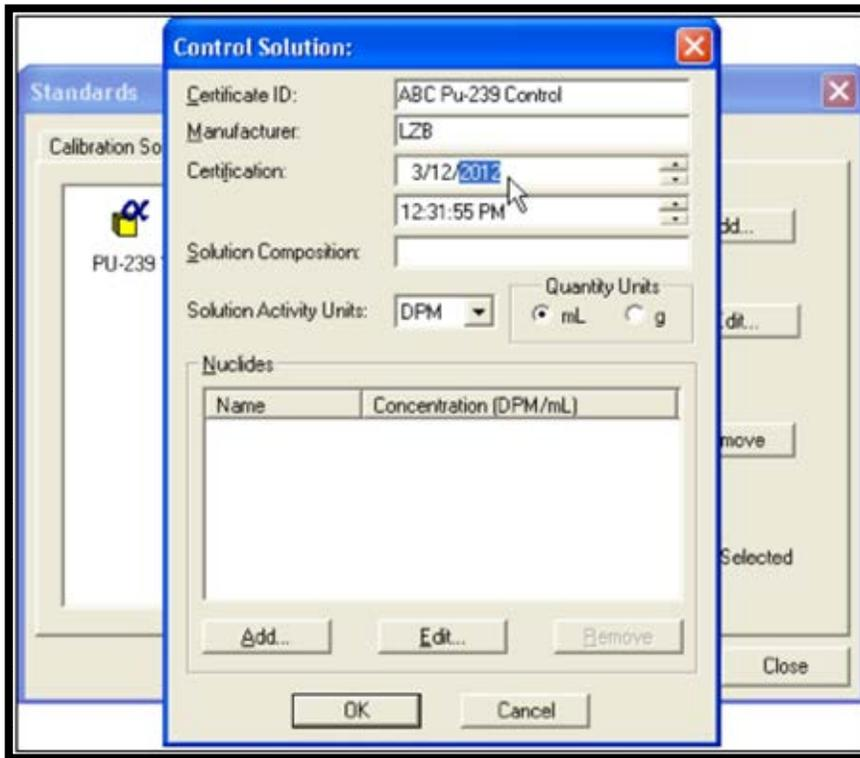

Figure 73. Certification Date/Time Tools
- 3) Enter the name of the control solution (**Certificate ID**), **Manufacturer** (whether in-house or vendor), a note about the **Solution Composition**; and a **Certification** date/time using the date and time tools (Figure 73).